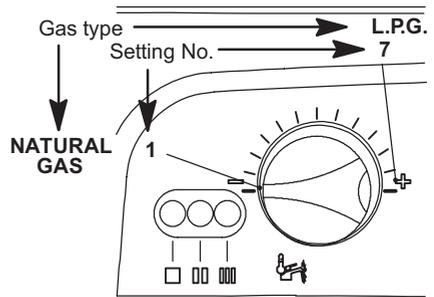

Fig. 8.8
At this step it is possible to visualize the current setting by keeping the reset button 6 pressed for more than 5 seconds. The lamps 9 will flash a number of times corresponding to the setting of the knob 8 in Fig. 8.8.
- To change the setting turn the knob 8 on a position corresponding to the gas used as shown in Fig. 8.8. By turning the knob 8, the lock-out signal lamp 5 blinks quickly (2 per seconds) indicating that the setting has changed and must be memorised.
At this step it is possible to visualize the current setting by keeping the reset button 6 pressed for more than 5 seconds. The lamps 9 will flash a number of times corresponding to the setting of the knob 8 in Fig. 8.8